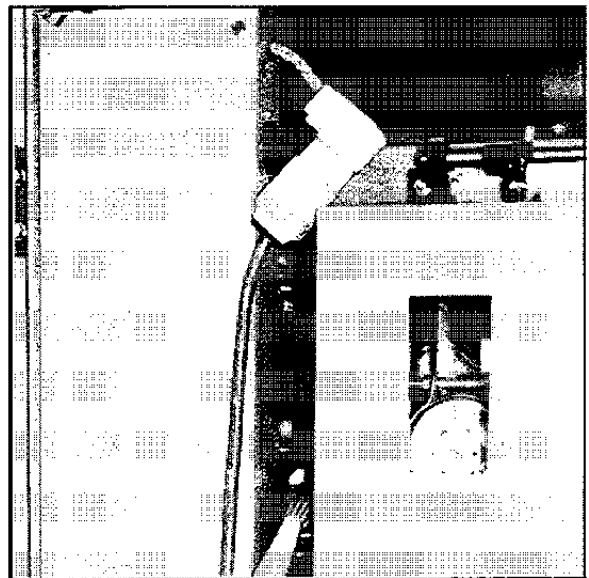

Fig. 45 Using Test Power Source
- With incoming power isolated and all loads disconnected electrically, the control circuit and other mechanisms should be exercised to determine that the devices operate properly. An auxiliary source of control power will be necessary to provide power to the electrical operators (Fig. 45).